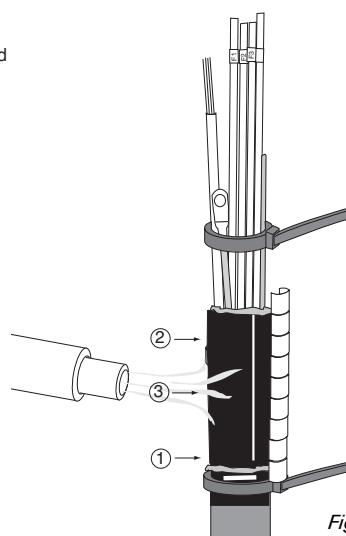

Figure 12
6. Continue heating until the entire tube has shrunk, then apply additional heat to the lump of adhesive in the middle of the tube. When the seal is complete, the tube should be smooth and the adhesive lump should be melted. (Figure 12)